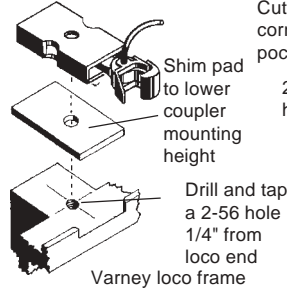
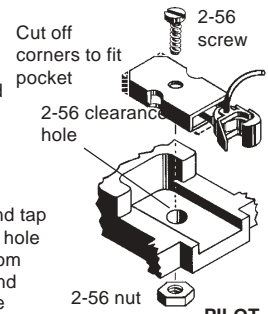

Fig.1 CAB (REAR) END
Fig.2 PILOT
2. For the rear: Modify the No.5® Draft Gear Box and Lid. Cut off side mounting lugs flush. See Fig.1. For the pilot: Modify the No.5® Draft Gear Box by cutting off side mounting lugs and sides to fit in loco coupler pocket. Also round off back corners to fit curvature of pocket. See Fig. 2.